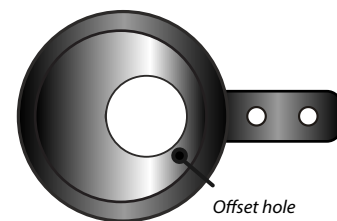

Figure 2
4. Press the aluminium shell into the bracket, on the opposite side with the pip on the bracket and press until it seats fully against the bracket. Make note of the correct hole orientation before fitting. The offset hole should fit nearest to the mounting tab of the bracket (Figure 2).